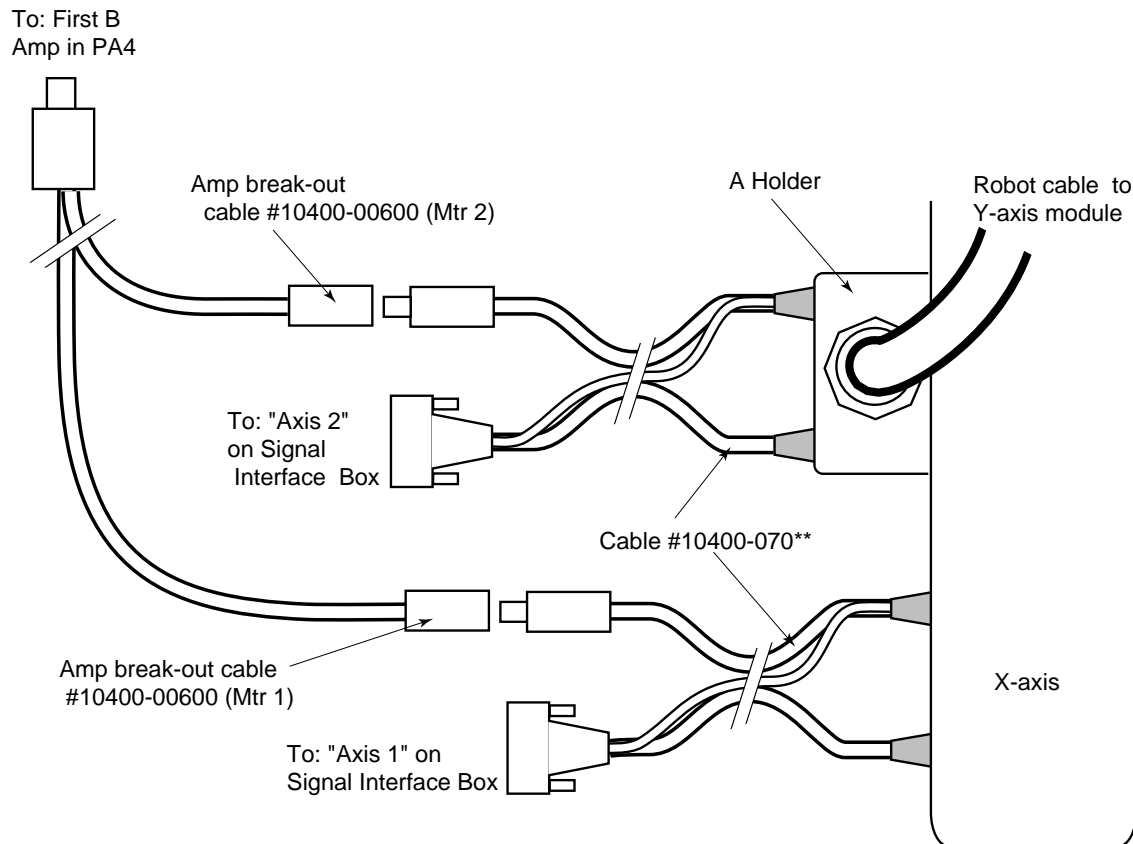

Figure 4-53. Connecting to an Adept MV Controller
- a. Connect the two barrel ends of the cable to the X-axis module as shown in Figure 4-53. These connectors have different pin sizes and cannot be installed incorrectly.
- b. Attach the A holder end of the robot cable to the side of the X-axis H module as shown in Figure 4-53 (refer to Section 4.3 for holder mounting).
- c. Connect the two barrel ends of the cable to the A holder as shown in Figure 4-53. These connectors have different pin sizes and cannot be installed incorrectly.